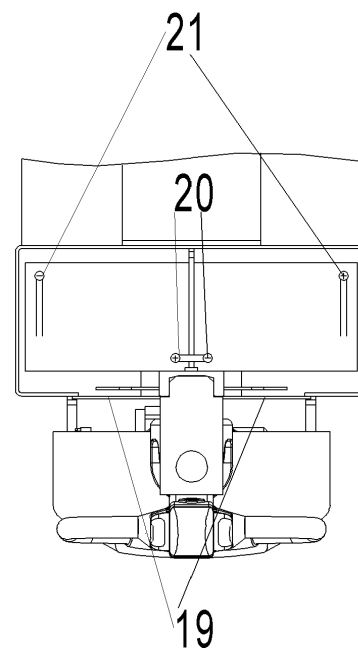

Fig. 19: Battery replacement
Park the truck securely and switch off the truck with the combined emergency switch (3). Loosen the main cover with the 2 screws (19, fig. 19).
Unbolt the screws of the negative terminal (21, fig. 19) firstly, then unbolt the screws of the positive terminal (21, fig. 19) and put the cables aside.
Remove the battery and Place the new batteries according to fig. 19.
After seal the hydraulic oil tank by provided seal cap(22, fig. 20), firstly unbolt the screws of negative terminal(20,fig. 19) and then unbolt the screws of positive terminal(21,fig. 19), put the cables aside.
Remove the battery fixing elements (27, fig. 20) and remove the batteries. Place the new batteries with the terminal-positions according to fig. 19.